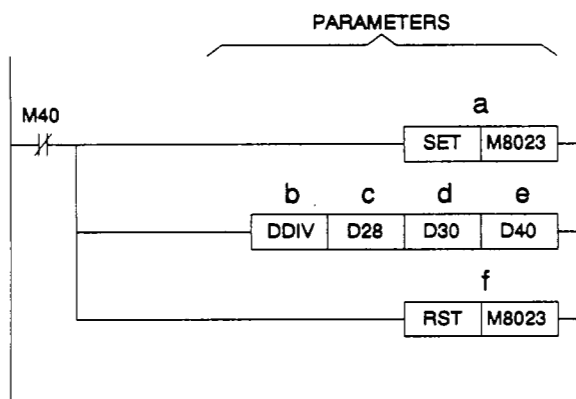

Figure 1: The floating point Divide instruction in ladder format.
Figure 1 shows the typical appearance of a floating point Divide instruction in a ladder program, while Figure 2 shows the same piece of ladder logic written in instruction format. This Divide instruction would have the effect of dividing the floating point value stored in Data Register pair D29 and D28 by the floating point value stored in D31 and D30 when Auxiliary Relay M40 is turned off. The floating point result would then be stored in D41 and D40. Finally, the floating point operation is ended by resetting M8023. The following section explains each parameter in greater detail:
- i) DDIV: The standard form of the instruction, taking 13 steps of program. In the example shown in Figure 1, while M40 is turned off, the DDIV instruction will operate.